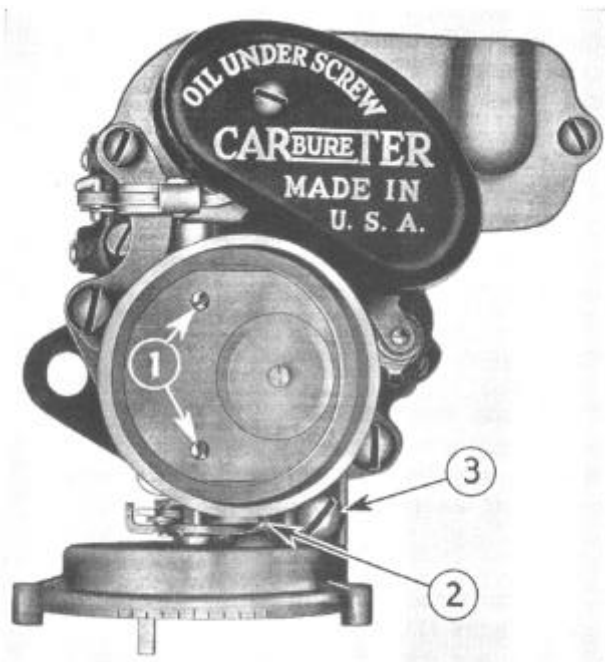
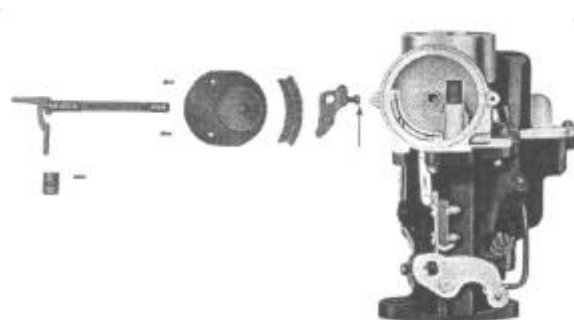

Figure 413
Figure 414
(45) Remove choker valve screws (1) and choker valve assembly (Figure 413).
(46) Loosen clamp screw (2) (Figure 413) on choke lever and screw assembly and bend lip under screw with screwdriver so it will pass over the portion of choke shaft which is not milled flat. Choke lever assembly can easily be removed if this lip is properly compressed.
(47) Remove choke piston, lever, link and shaft assembly (Figure 414).
(48) Remove suction passage gasket from air horn.
(49) Don't remove screw (3) (Figure 413) that holds air horn and piston housing together. These parts are lined reamed at the factory. If they are removed line them up with shaft and valve so valve, shaft and piston works freely.
(50) Reverse operations 43 through 49 to reassemble climatic control.